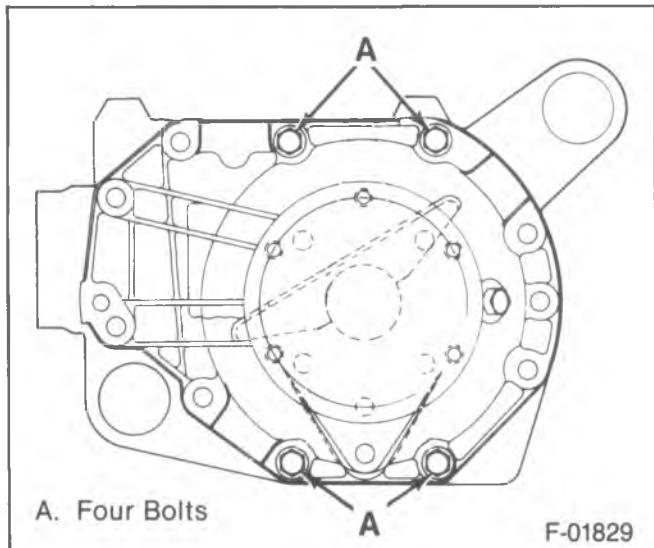

Figure 102—Installing the Four Bolts
- Turn the left hand adjusting sleeve (32) in toward the differential case using J-36599 or J-36615 until backlash is felt between the ring and pinion gear.
15. Carrier case halves (29). Do not use any sealer at this time.
- If carrier halves do not make complete contact, back out the right hand adjusting sleeve (32).
16. Four bolts (28) (figure 102).